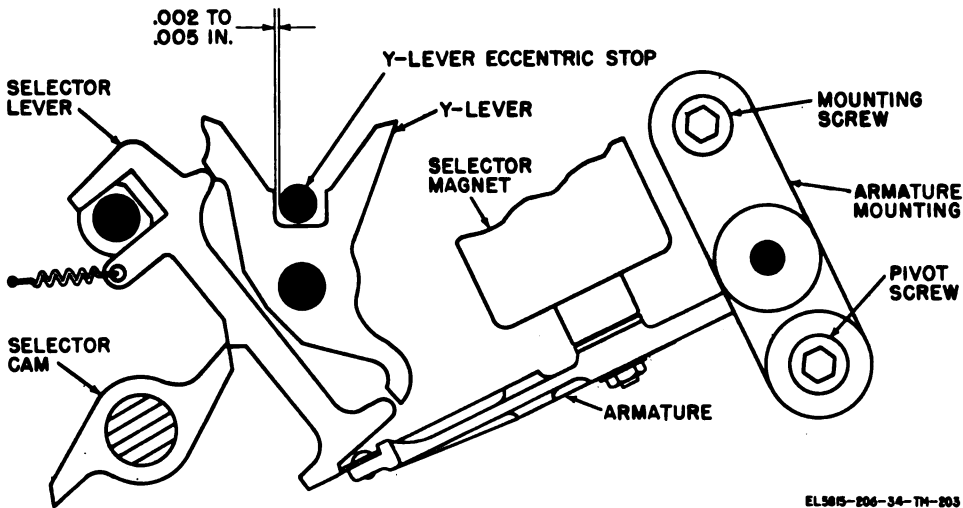

Figure 3-131. Selector-magnet armature adjustment (TT-4A/TG and TT-698/TG ).
**3-164. Selector-Magnet Armature Adjustment (TT-4A/ TG and TT-698/ TG) (fig. 3-131)**